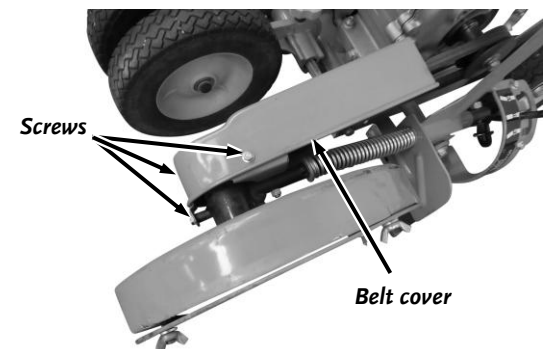

Figure 23
4. Remove the three Belt Cover Screws using an 8mm Wrench and remove the Belt Cover (**Figure 23**).